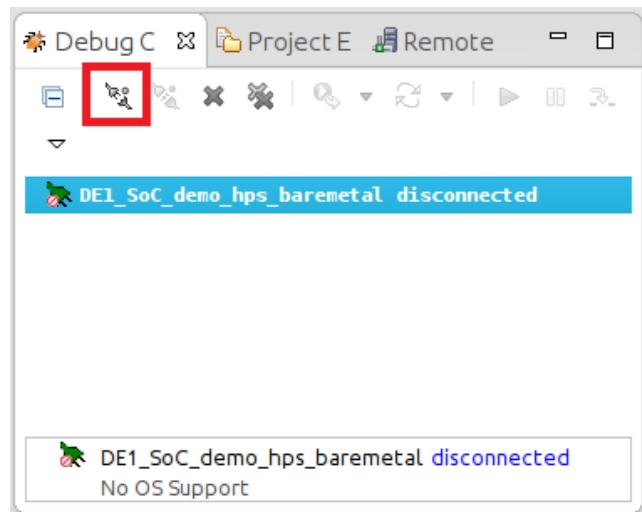

Figure 8-36. Debug Control View
29. In the “Debug Control” view, click on the “DE1_SoC_demo_hps_baremetal” entry, then click on the “Connect to Target” button, as shown on Figure 8-36. Our debug script will load and execute the preloader, then it will load and wait at our application’s “main()” function.